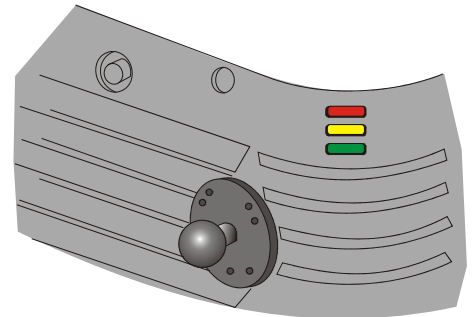

Figure 7-1 Projector Status LEDs
- Check the status of the LEDs on the rear corners of the projector. (Figure 7-1). If there is no activity, see #3.